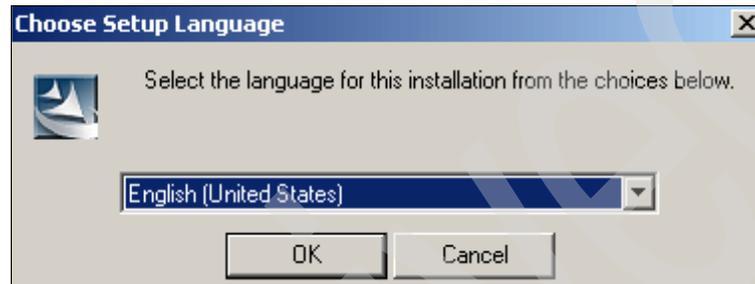

Figure 5-9 Setup LAN Console
1. After you insert the System i Access for Windows V6R1 DVD, the window shown in Figure 5-9 appears. Select the language you require, and click **OK** to continue.